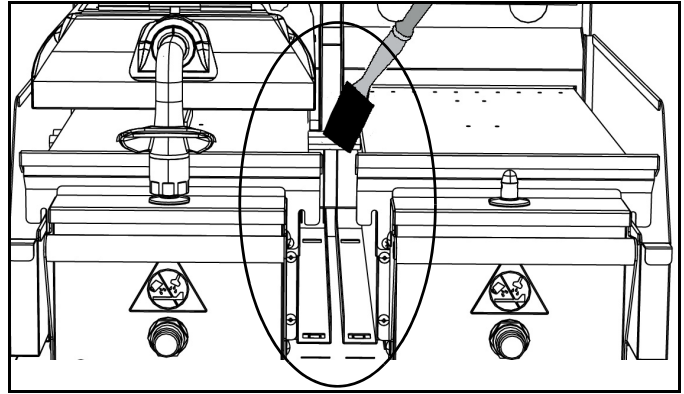

Figure 6-14
13. Use the straight flat scrubbing tool with hi-temp grill cleaner to scrub under the grease can rails. Wipe with a wet towel to remove any soil and cleaner, and finish wiping with a dry clean towel. See Figure 6-14